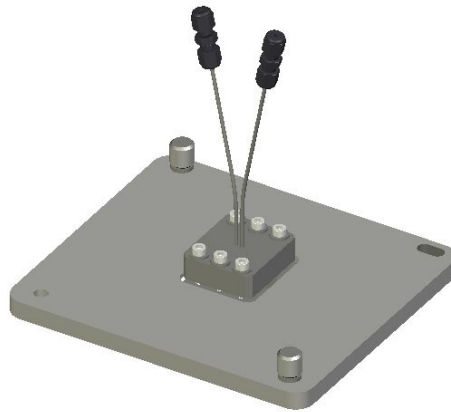

Fig 9: Angled View of Supercritical Fluid Diamond ATR Top Plate 10585
- 1 Supercritical Fluid Diamond ATR Top Plate (Fig 9)
- Gaskets (10)